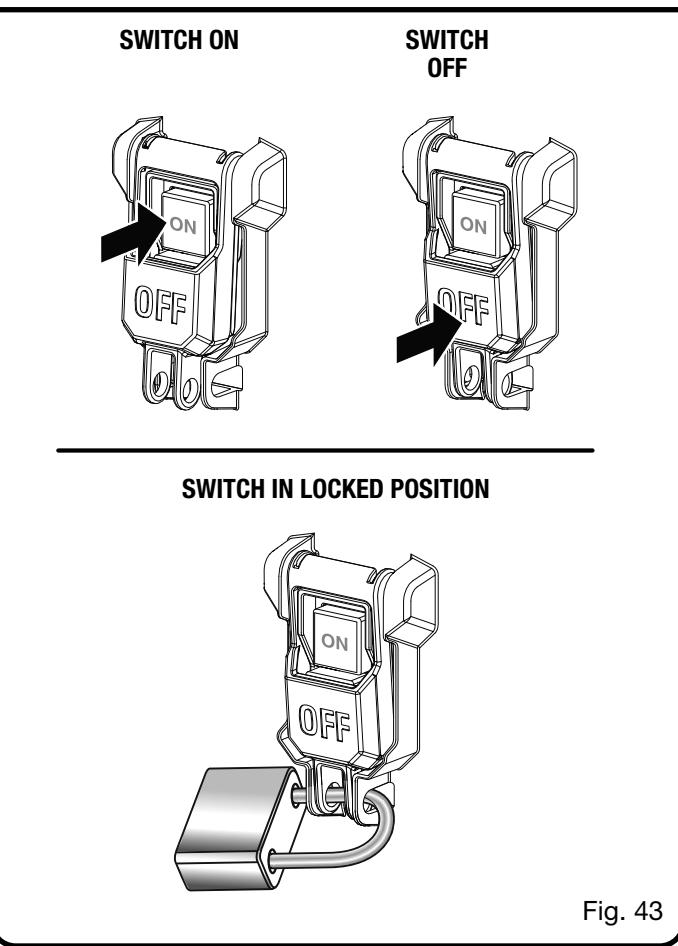

Fig. 43
**NOTE:** To prevent unauthorized use, install a padlock (not included) through the holes in the switch and cover as shown in figure 43.